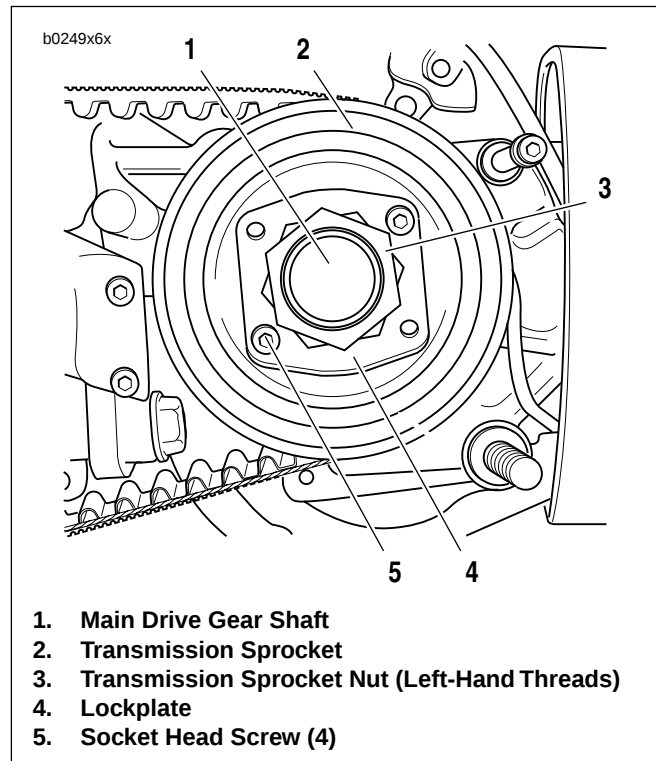
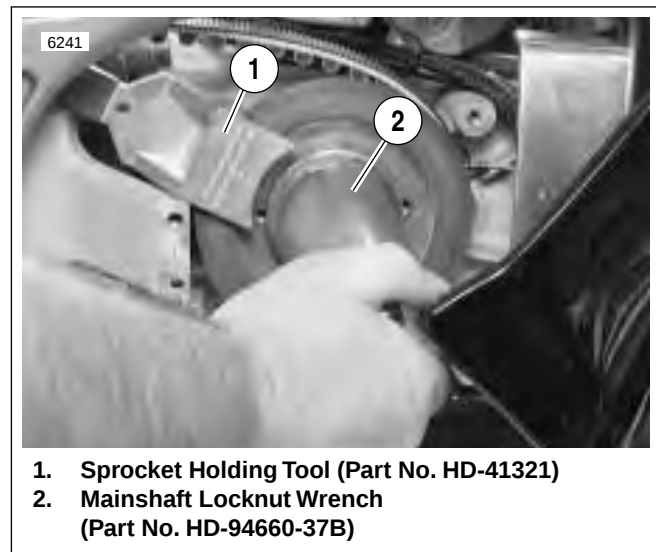

Figure 6-60. Transmission Sprocket
Figure 6-61. Transmission Sprocket Tightening
9. See Figure 6-60. Increase belt deflection by loosening rear axle and moving rear wheel forward. Install transmission sprocket (2) with secondary drive belt onto main drive gear shaft (1).
11. Apply a few drops of LOCTITE THREADLOCKER 262 (red) to the **left-hand threads** of transmission sprocket nut (3). Position nut with washer-faced side facing transmission sprocket. Turn the nut **counterclockwise** to install it onto main drive gear shaft.
- a. See Figure 6-61. Install SPROCKET HOLDING TOOL (1) (Part No. HD-41321) as shown. Use MAINSHAFT LOCKNUT WRENCH (2) (Part No. HD-94660-37B) and a torque wrench to tighten sprocket nut to 50 ft-lbs (68 Nm) INITIAL torque, ONLY.
- d. See Figure 6-60. Install lockplate (4) over nut (3) so that two of lockplate's four drilled holes (diagonally opposite) align with sprocket's (2) two tapped holes.
13. See Figure 6-60. Install four socket head screws (5) through aligned holes of lockplate and into tapped holes of sprocket. Tighten to 90-110 **in-lbs** (10-12 Nm).